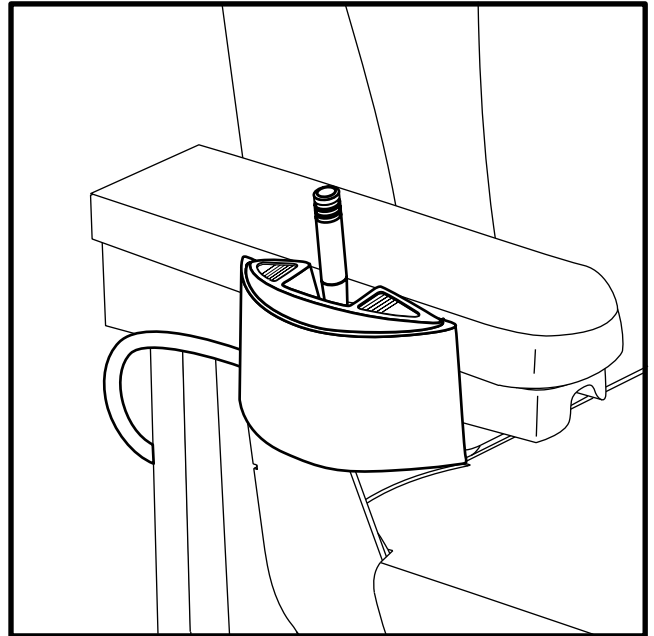

Figure 22. Power Seat Toggle Switch (Shown on Armrest)
1. Press forward on the toggle switch to raise the seat. See figure 22.